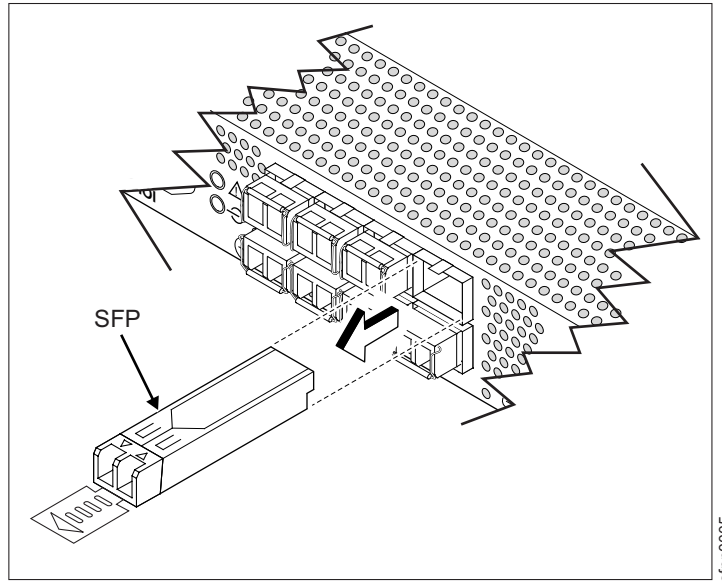

Figure 22. Removing an SFP module, plastic tab type
2. Using the plastic tab, pull the SFP from the port (see Figure 22 on page 43).